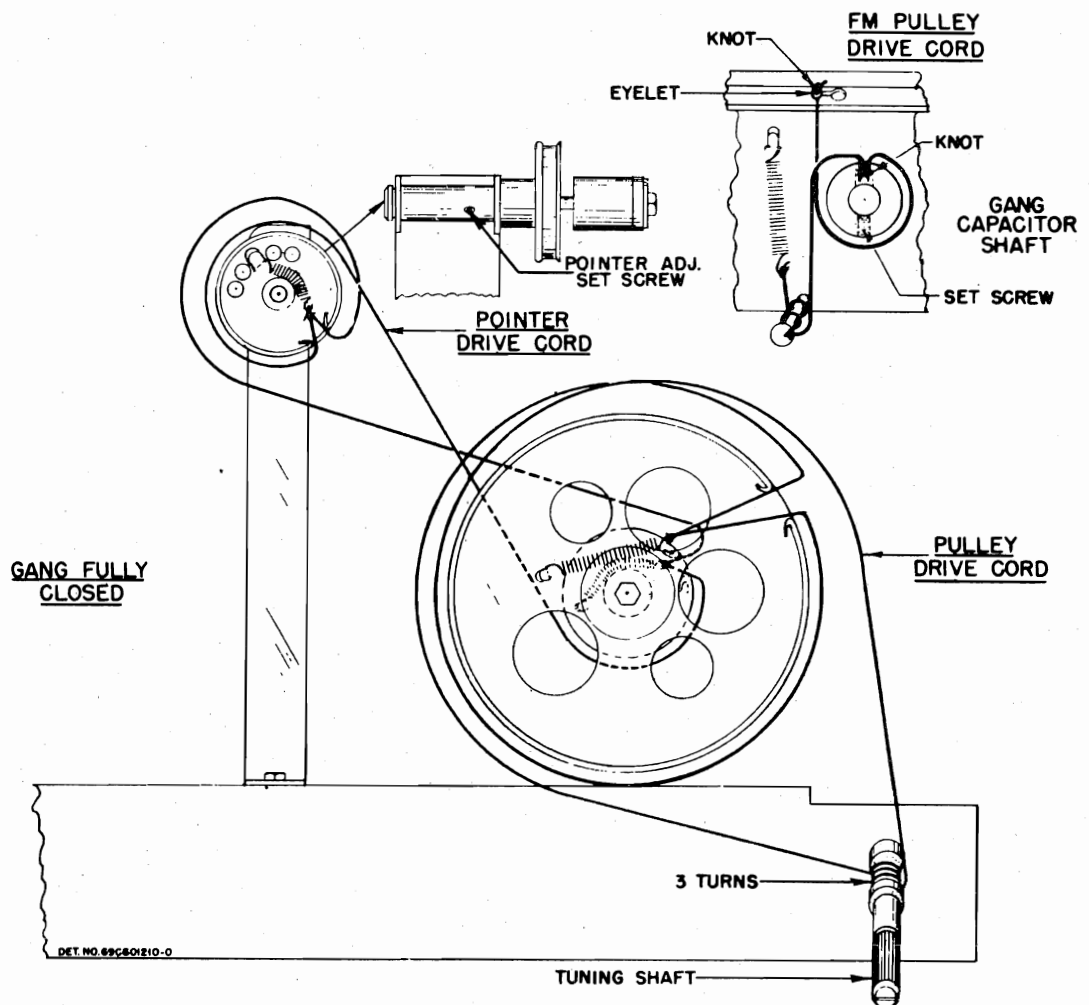

FIGURE 3. POINTER AND DRIVE CORD RESTRAINING DETAIL
5. From the back of the cabinet, loosen the pointer adjustment setscrew (see Figure 3) and pull the pointer and shaft assembly from the chassis. **CAUTION: Do not remove the nut from the front of the pointer, as the detent ball and spring will fall out, and may become lost.**
2. From the back of the cabinet, loosen the pointer adjustment setscrew (see Figure 3). **CAUTION: Do not remove the nut from the front of the pointer.**